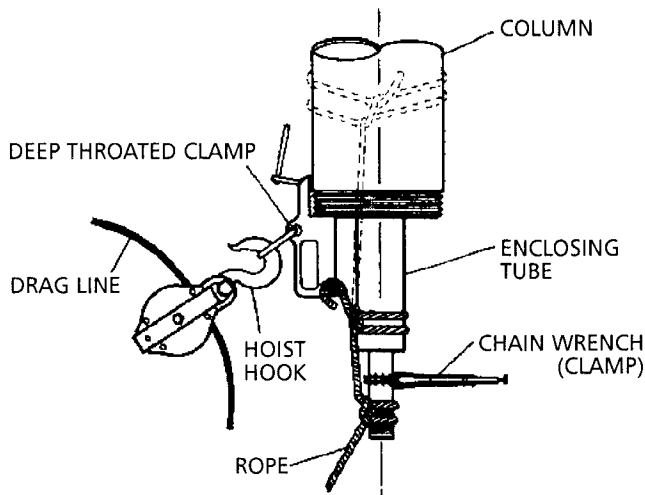

Figure 7
- If pump has a column adjusting nipple (631), for open lineshaft, screw the discharge head onto the column nipple until the end of the stub shaft is "HT" below the face the driver mounting flange of the discharge head. (See Figure 7 for detail.) For enclosed lineshaft, screw the discharge head onto the column nipple until the "F" dimension is satisfied (See Figure 7). Tighten the lock ring (639).